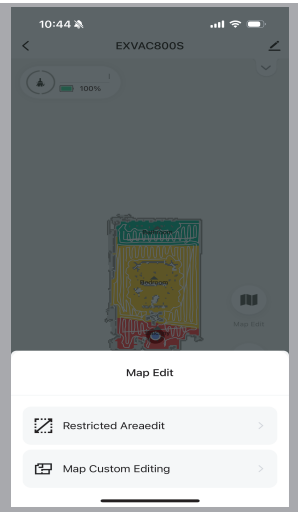
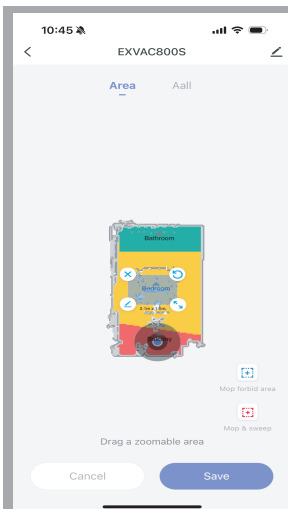
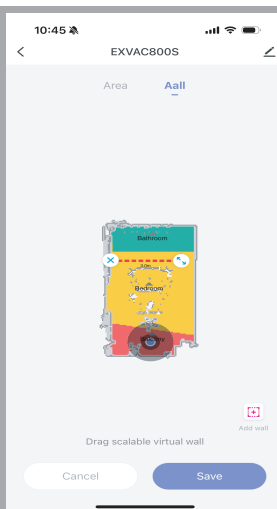

Fig.14
Fig.15
Fig.16
D). Map Edit: click the icon  to set the restricted area (Fig.14, Fig. 15: forbidden area, mop & sweep area, virtual wall), and edit room (Fig.16: merge rooms, split rooms, name rooms,etc.).